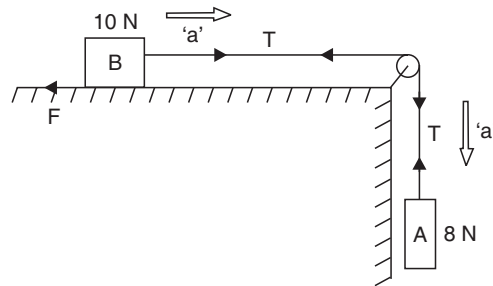

Fig. 8.13
**Example 8.21.** Two blocks shown in Fig. 8.13, have weights  $A = 8 \text{ N}$  and  $B = 10 \text{ N}$  and co-efficient of friction between the block A and horizontal plane,  $\mu = 0.2$ .
**Sol.** Refer to Fig. 8.13.